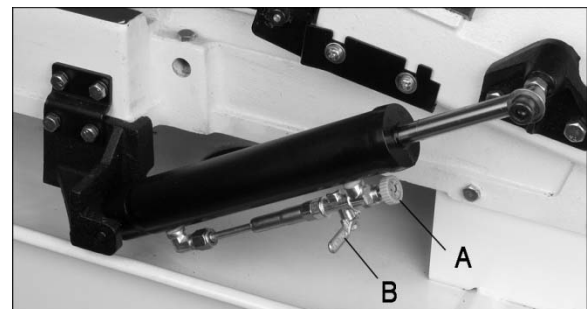

Figure 17
To increase feed rate, turn dial (A, Figure 17) counterclockwise. To decrease, turn clockwise.
To close hydraulic flow, turn lever (B) down, perpendicular to cylinder, as shown in Figure 17. To open hydraulic flow, turn lever (B) parallel to cylinder.